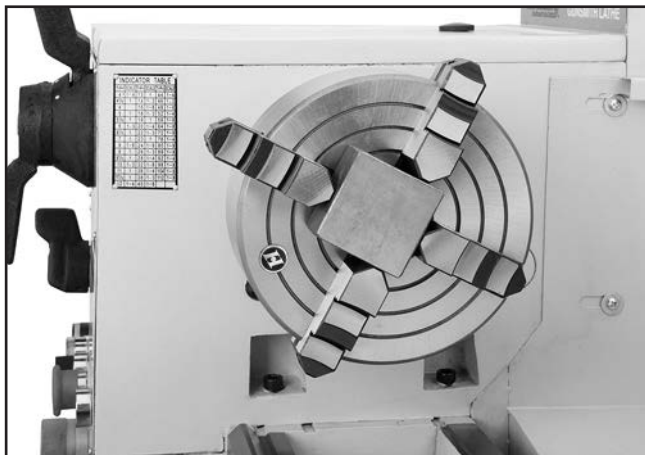

Figure 29. Properly held workpiece for low speed offset boring or machining.
8. After the workpiece is held in place, back the tailstock away and rotate the chuck by hand. The center point will move if the workpiece is out of center (see **Figure 29**).